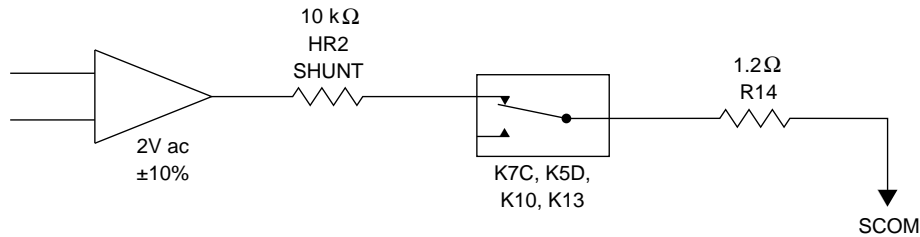

Figure 5-9. Verifying the 2.2 mA Range of the 220 μ A /2.2 mA Amp Circuit
- Check the 2.2 mA Range of the 220 $\mu\text{A}/2.2 \text{ mA}$ AMP. Set the 5700A to 2 mA, standby. Set the external ac reference to 6.4V at 1 kHz. Measure the ac voltage at the collector of Q4 with a DMM and verify it is 2.0V ac $\pm 10\%$. If a failure is detected, first verify the 1 k Ω shunt on HR2 is correct and it's connected to SCOM through relays in K7A, K5D, K10, K13 and 1.2 Ω load resistor R14 as shown in Figure 5-9. If the shunt and output switching is correct check Q4, Q5, K3 and their associated components in the 220 $\mu\text{A}/2.2 \text{ mA}$ AMP circuit.